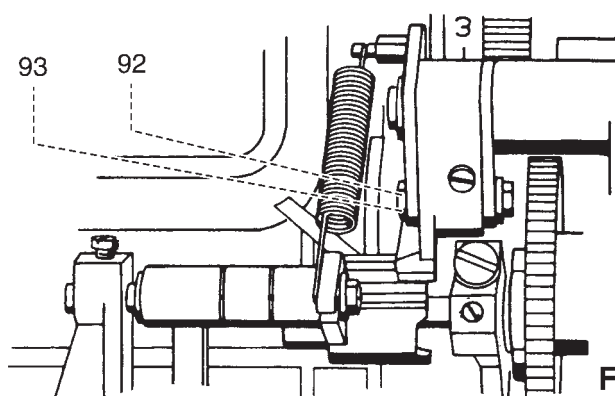

Fig. 47
In its basic position the setting eccentric must point upwards at a position approx. 45 degrees towards the left (fig. 47).
- Set stitch width adjustment dial 70 to "0" (fig. 47).